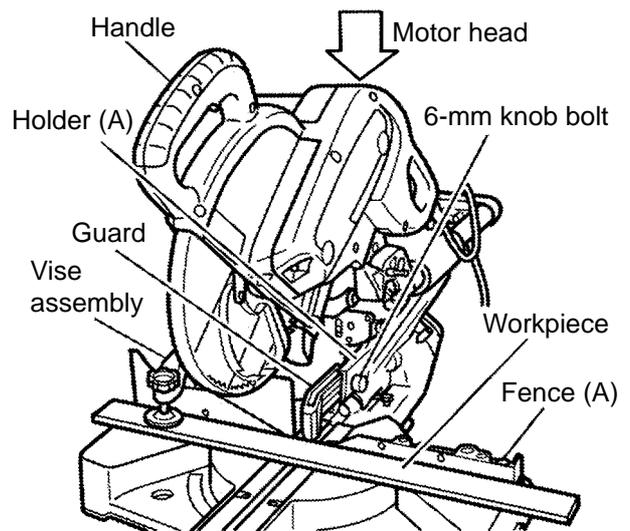

Fig. 28
There is a plastic guard mounted in holder (A) (Fig. 28). To allow accurate grooving of the guard with the saw blade that is actually going to be used on the machine, the groove is not precut at the factory. Please follow the procedures below to make a groove in the guard. In order to cut a groove in the guard at a constant speed, press a workpiece of 35-mm (1-3/8") square against the fence and clamp it in position with the vise ass'y. Loosen the 6-mm knob bolt and press the guard against the workpiece then secure it in position. Slide the motor head up to the upper limit position. Turn on the switch, and after the saw blade has reached sufficient rotation speed, press the handle down slowly and slide it as far as it will go to cut a groove in both the guard and the workpiece.